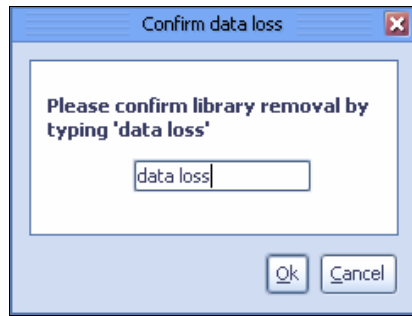

Figure 10-54 Delete library: Confirm data loss window
3. Click **Yes**. The Confirm data loss window opens (Figure 10-54).